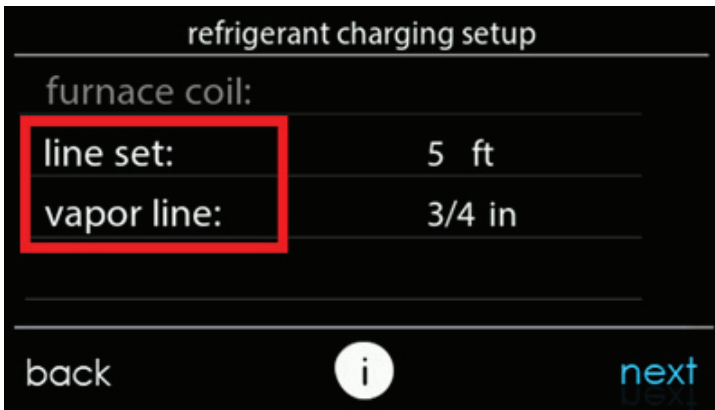
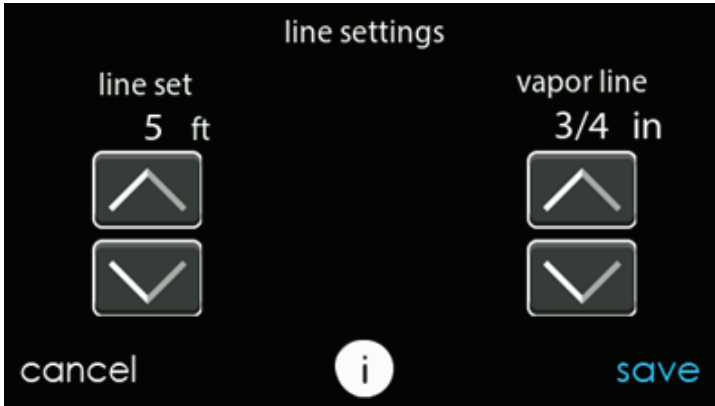

Fig. 17 – Select Line Set Length & Vapor Line Diameter
Fig. 18 – Adjust Line Set Length & Vapor Line Diameter that is Installed
11. Press the text "line set" and "vapor line" to choose line set length and vapor line diameter (see Fig. 17 and Fig. 18). After complete, press "next" to advance to next screen.